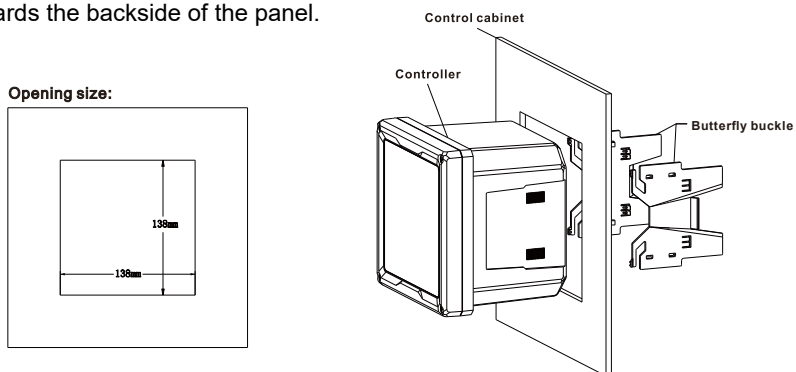

Fig.2 Panel cutout dimensions and installation method
- (1) Cut an opening in the panel (opening size 138mm*138mm). Make sure the area around the panel cutout is clean and free of burrs.
- (2) Place the controller into the panel cutout, ensuring a tight fit between the panel and the controller.
- (3) Position two butterfly brackets on either side of the controller as shown in Fig.2.
- (4) To secure the controller tightly in the opening, push both mounting brackets towards the backside of the panel.